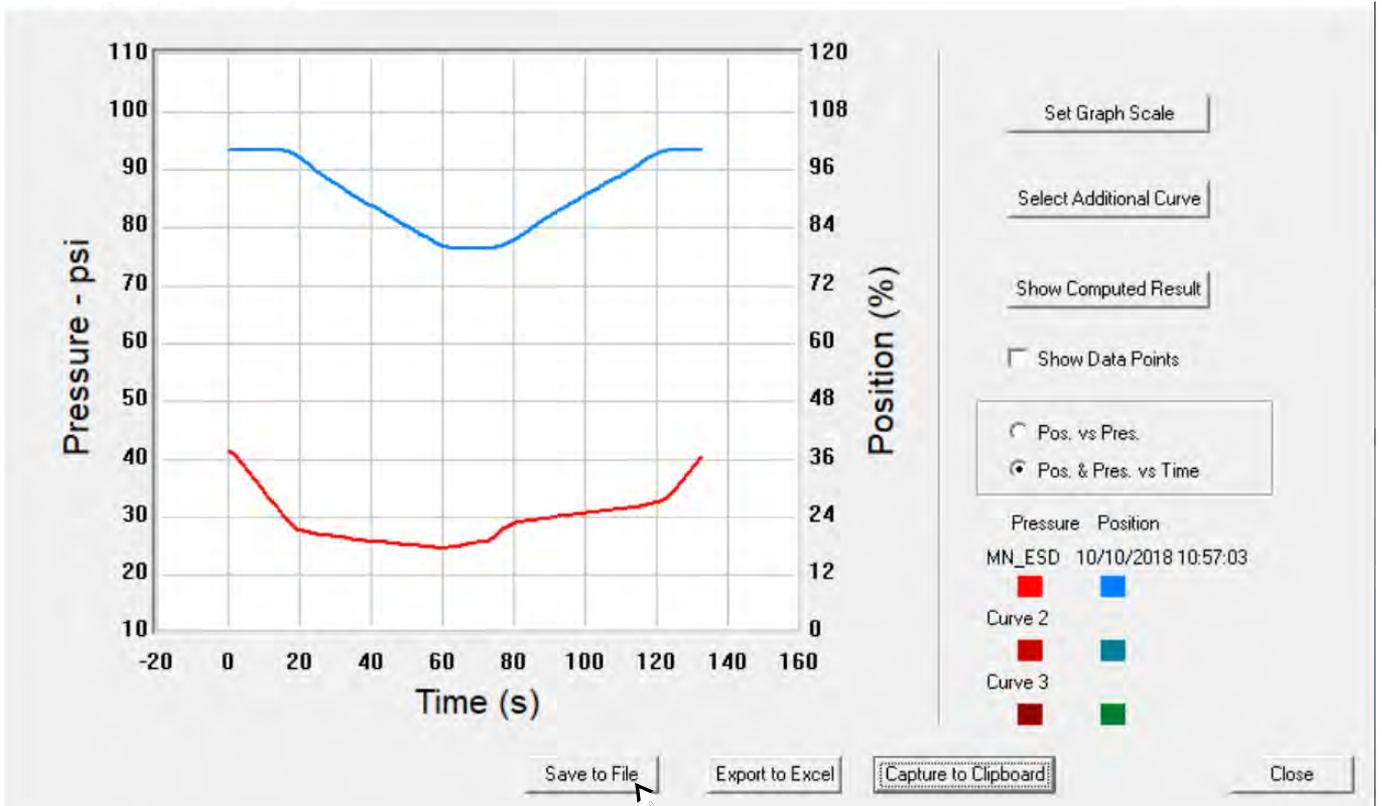

Figure 273 Selecting Save to File
1. Select **Save To File** (Figure 273).